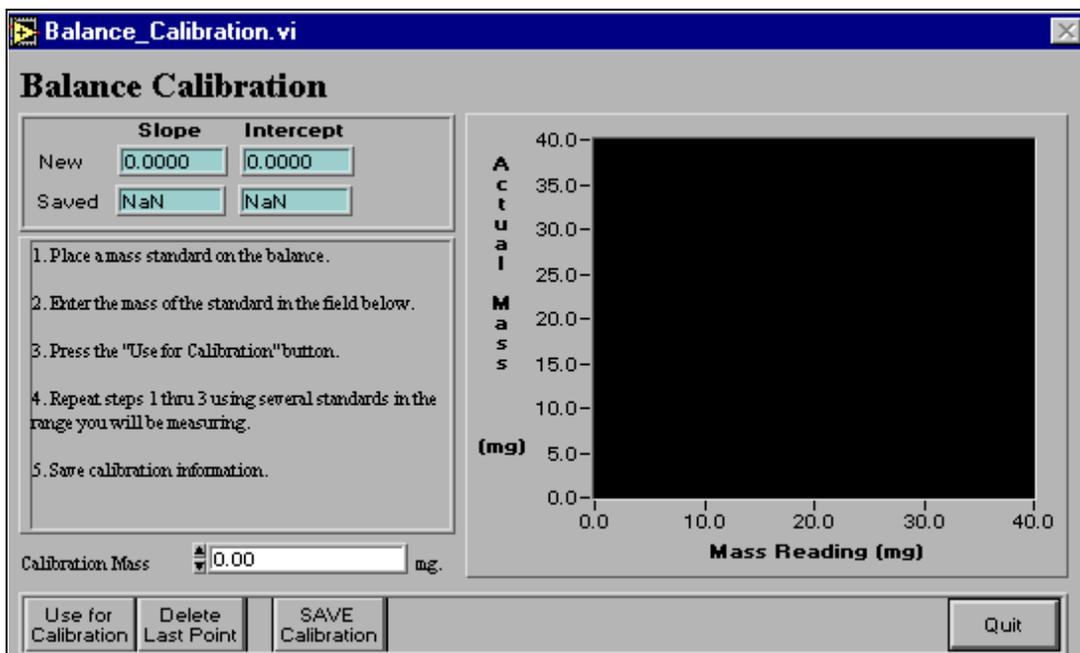

Figure 16. Make a new calibration here.
4. Clicking on **New** opens the "Balance_Calibration" window (see Figure 16).